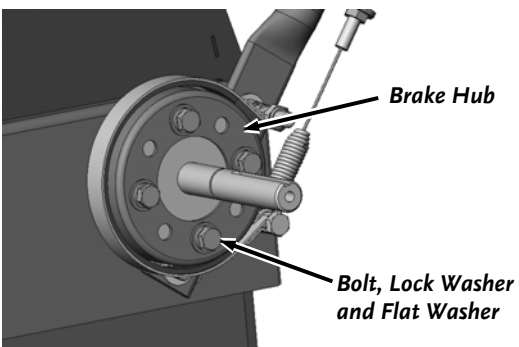

Figure 26
2. Remove the four Bolts, Lock Washers and Flat Washers from the Brake Drum with a 1/2" Wrench and pull the Drum from the Axle (**Figure 26**).